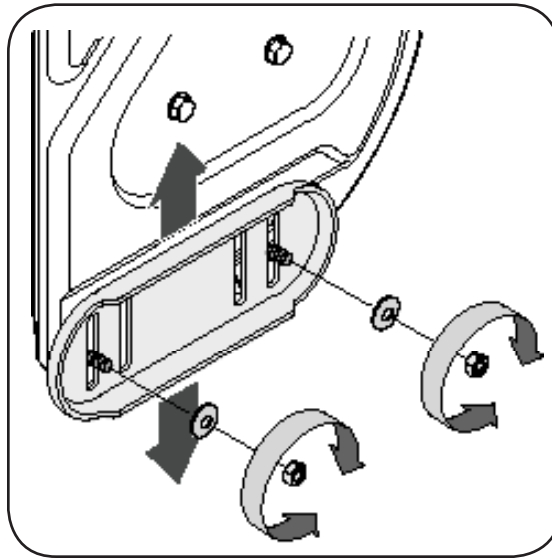

Figure 17
1. Adjust skid shoes by loosening the four hex nuts, washers, and carriage bolts and moving skid shoes to desired position. See Figure 17.